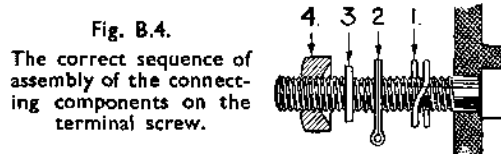

Fig. B.4.
All four connections, namely the two ends of the earthing tag and the two ends of the coil, should be soldered. The coil end leading to the terminal should be soldered to its tag and not to the retaining nut. In the case of the terminal screw which holds the bakelite cover in position, similar considerations apply, the assembly being :—Spring washer (1), wiring tag (2), lead washer (3), and recessed nut (4) (see Fig. B.4). A lead washer has been found necessary at this point as some few cases of bad connection have been found. Under no circumstances